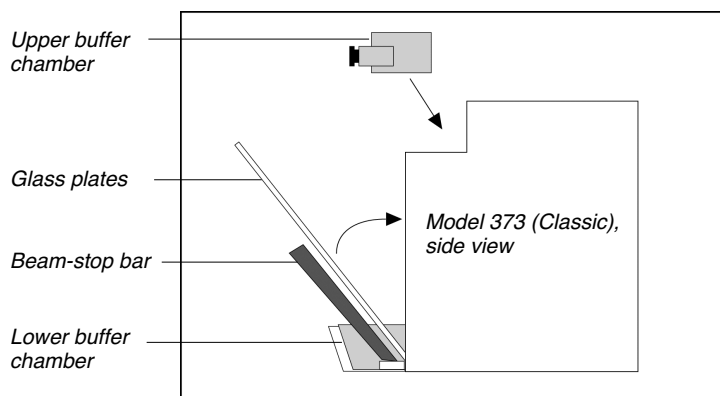

Figure 3-3. Placement of the Buffer Chambers, glass plates, and beam-stop bar in the electrophoresis chamber of the Model 373 (Classic)
3. Pull the black beam-stop bar in the electrophoresis chamber toward you until it stops (Figure 3-3). Rest the bottom edge of the plates on the notched supports in the bottom of the lower buffer chamber, with the notched plate facing away from you. Stand the plates in a vertical position. Press them firmly against the heating plate, and then push the beam-stop bar up against the plates. Center the plates in relation to the beam-stop bar, and then lock the beam stop bar in place by sliding the latches down along the outer edges.